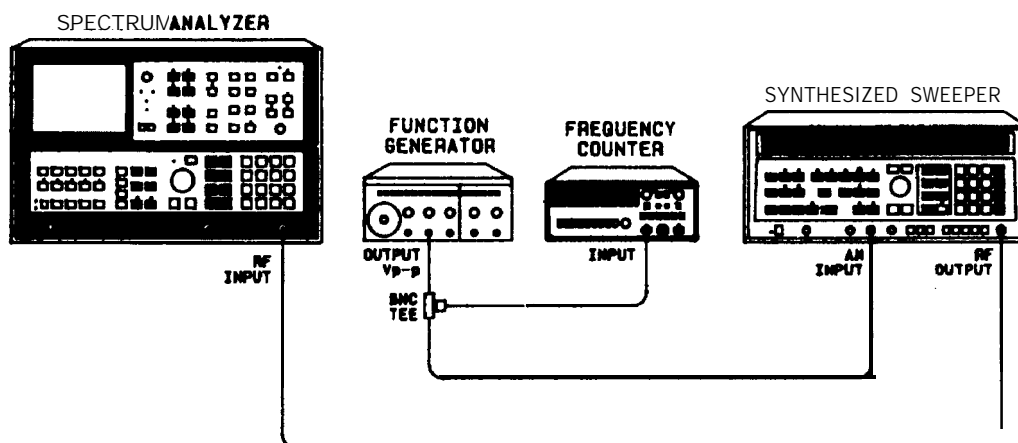

Figure 2-35. Fast Sweep Time Accuracy (<20 ms) Test Setup
1. Connect equipment as shown in Figure 2-35.